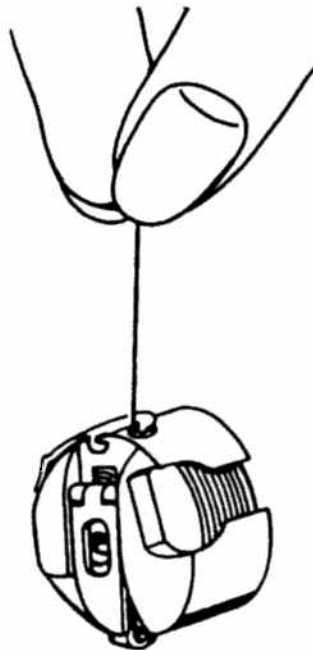

Fig. 29
- Upon sharp upward movements of the hand, the thread must run off gradually (fig. 29).